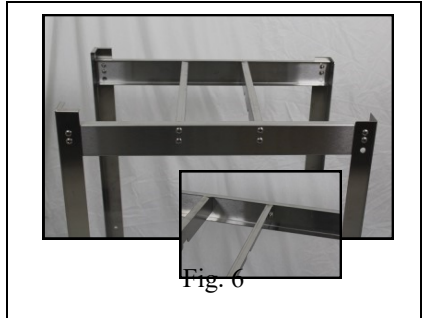

Fig. 6
5. Next attach the lower tank brackets from front to back to the lower frame brackets as shown in (Fig. 6)**Note: Angled edges face out.**